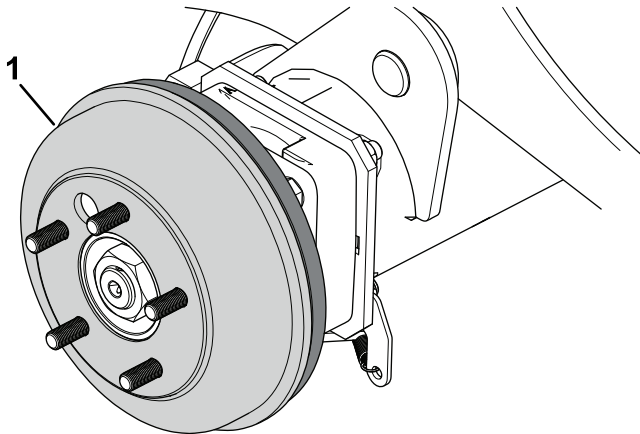

Figure 73
4. Remove the brake drums (Figure 73) by hand.